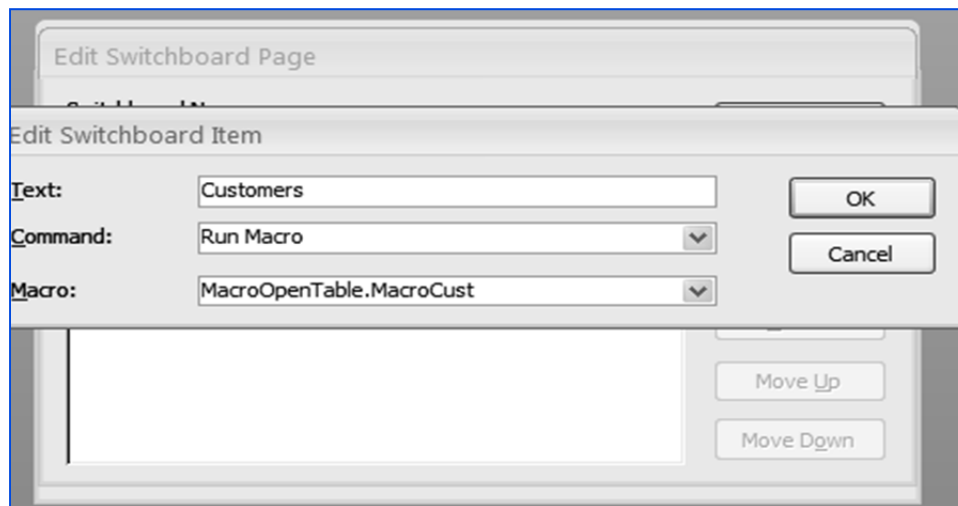

Fig. 4.3.9: Provide details of the button
7. From the *Form* list, select *MacroOpenTable.MacroCust* and click *OK*. The *Edit Switchboard* window appears, as shown in Fig. 4.3.9.